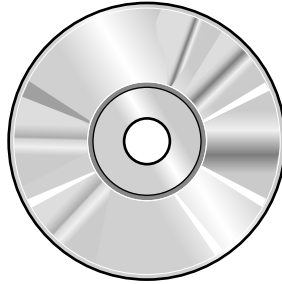

Fig. 5
- 4 Fig. 5 shows a DVD. The DVD is an educational film about outer space aimed at young children.